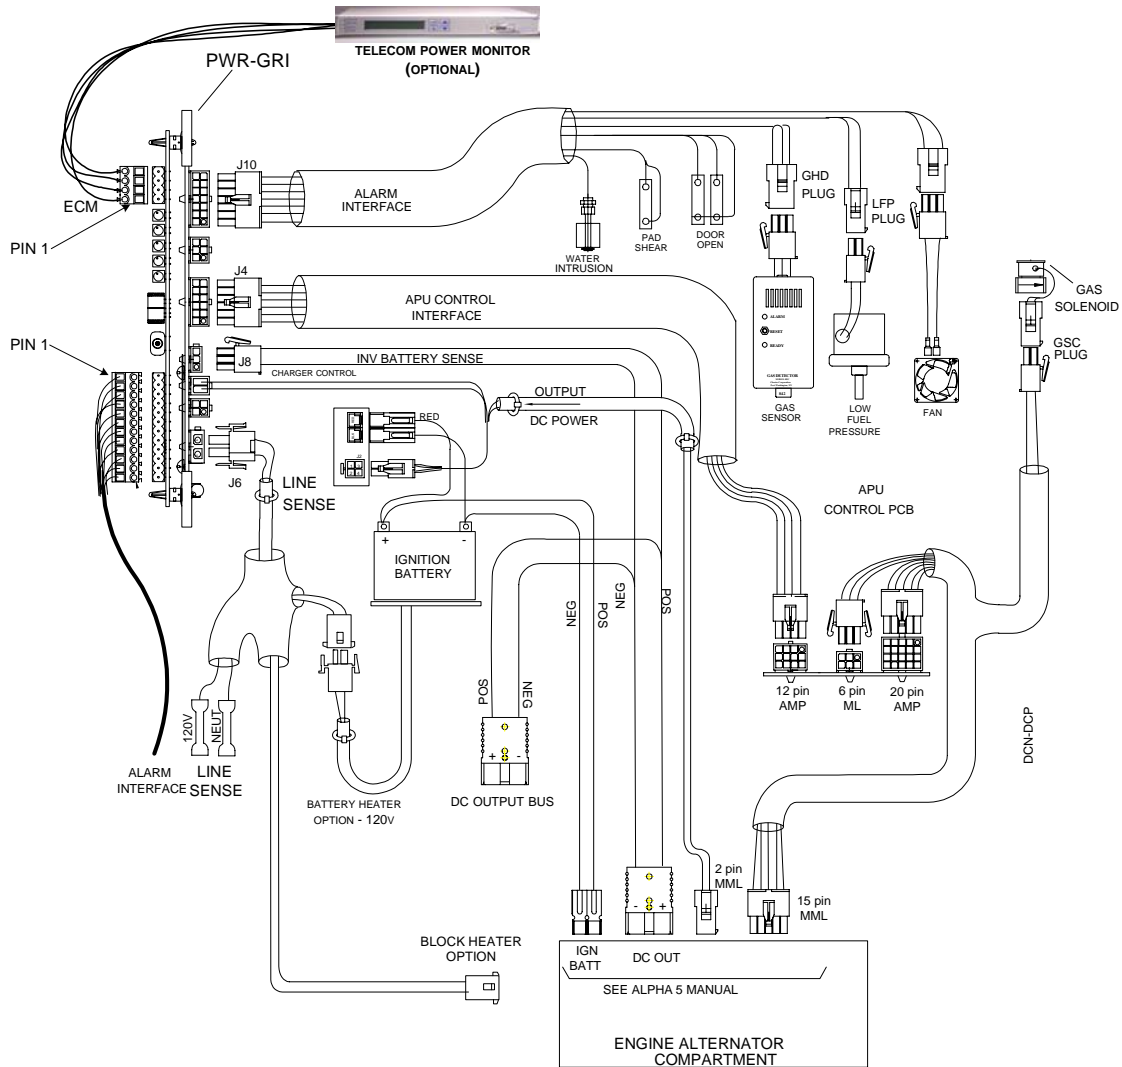

Fig. 4-1 ECM/APU Interconnection
The Gas Hazard Detector Interface Connector is connected between the wire harness and detector unit as shown. The interface control is a 3-pin (1x3 row) Universal Mini Mate-'N'-Lok style male connector. See Fig. 4.1 for location.
The interface control is a 2 pin Mini Mate N' Lok connector (Near gas solenoid). See Fig. 4.1 for location.
4.3.3 Solenoid (See Fig. 4.1 for location)
The Charger Module – Control Interface Connector is connected between the charger module and ECM with Sense/Power leads connected to the APU Output DC Bus. The interface control is a 4-pin (2x2 row) Universal Mini Mate-'N'-Lok style male connector. See Fig. 4.1 for location.
The Charger Output Interface Connector (J1) is connected between the charger module and the Ignition Battery as shown. The interface control is a 2-pole Anderson connector. See Fig. 4.1 for location.
See Fig. 4.1 for location.
The interface control is a 12 pin (3x4 row) Mini Mate-'N'Lok style connector. See Fig. 4.1 for location.